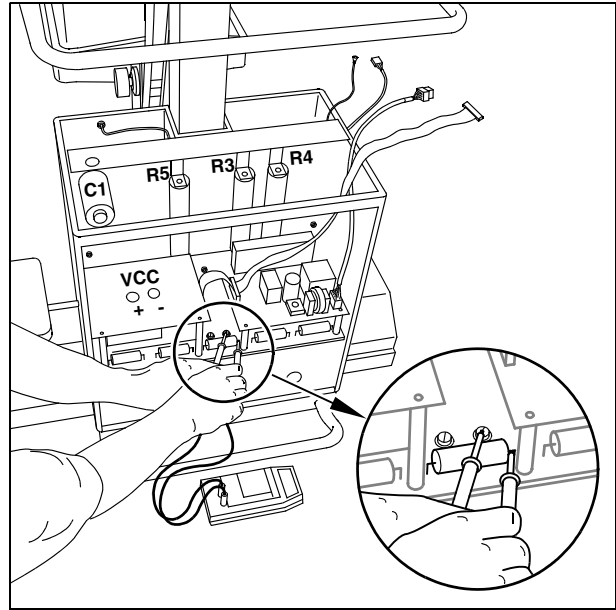

Fig. 1
- **Always measure the actual voltage present with the DVM at test points -VCC and + VCC on the D 960 inverter board or (more accessible) on the D 970 capacitor board at the + connection point of capacitor C3 and on the right side of fuse F3 (see Fig. 1).**